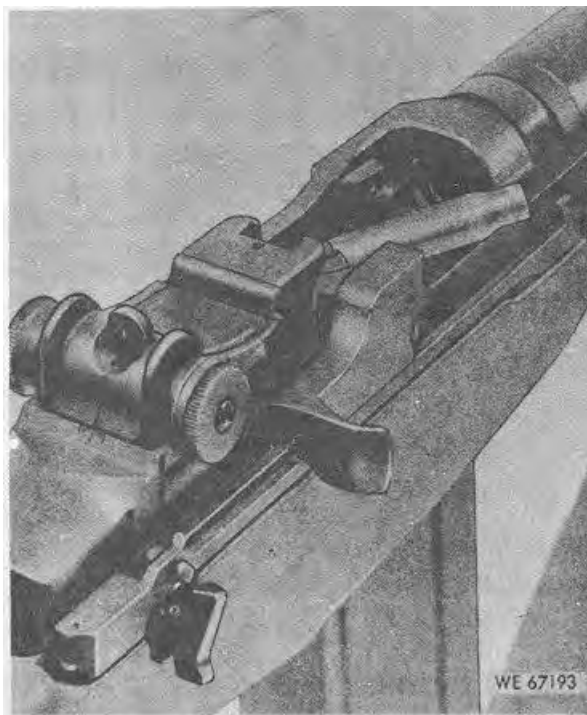

Figure 2-10. Ejecting cartridge case from chamber.
(7) *Ejecting.* Ejecting is throwing the empty cartridge case out of and away from the receiver (fig. 2-10). As soon as the bolt has withdrawn the cartridge case clear of the chamber, the force of the ejector spring and plunger pushes the cartridge case head away from the bolt face. This causes the forward end of the cartridge case to move upwards and to the right. The rapid rearward movement of the bolt causes the cartridge case to strike the angle on the lower right
(8) *Cocking.* Cocking occurs when the hammer is forced into position for firing the next cartridge. This happens as the bolt travels toward the rear. The rear end of the bolt forces the hammer back and rides over it. The hammer is caught by the sear, if the trigger is still held to the rear, and by the trigger lugs if the trigger has been released (fig. 2-10).